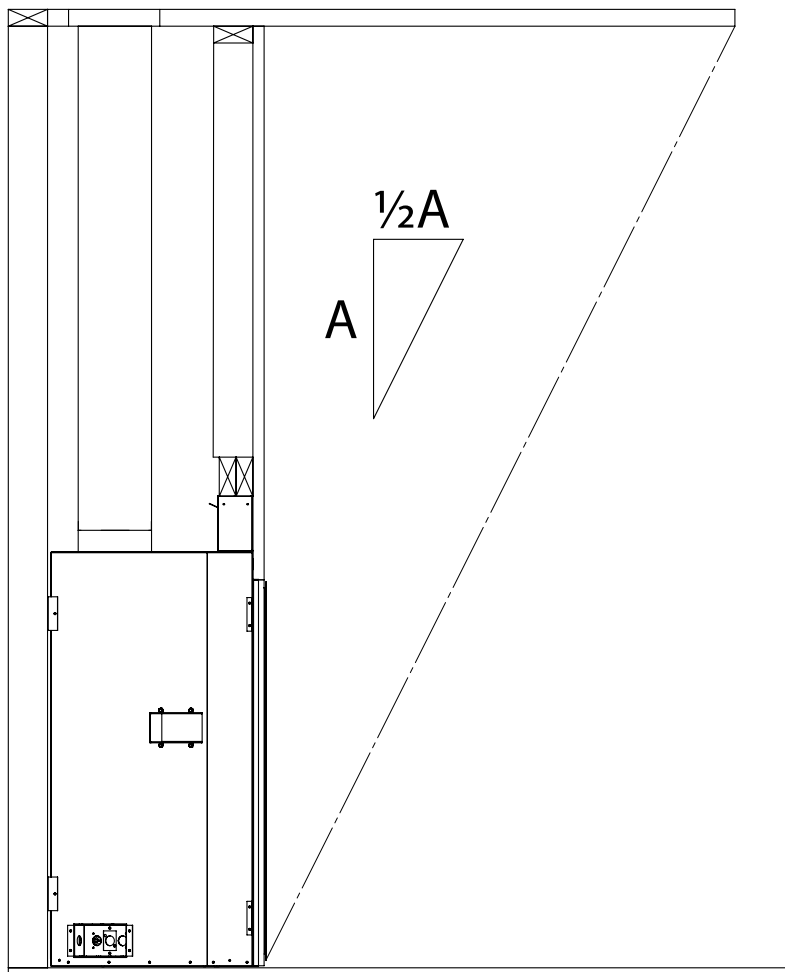

Figure 40. Overhang Depth Requirements
- The fireplace must be protected by an overhang with a depth that is at least equal to half of its height from the base of the fireplace, as shown in Figure 40.